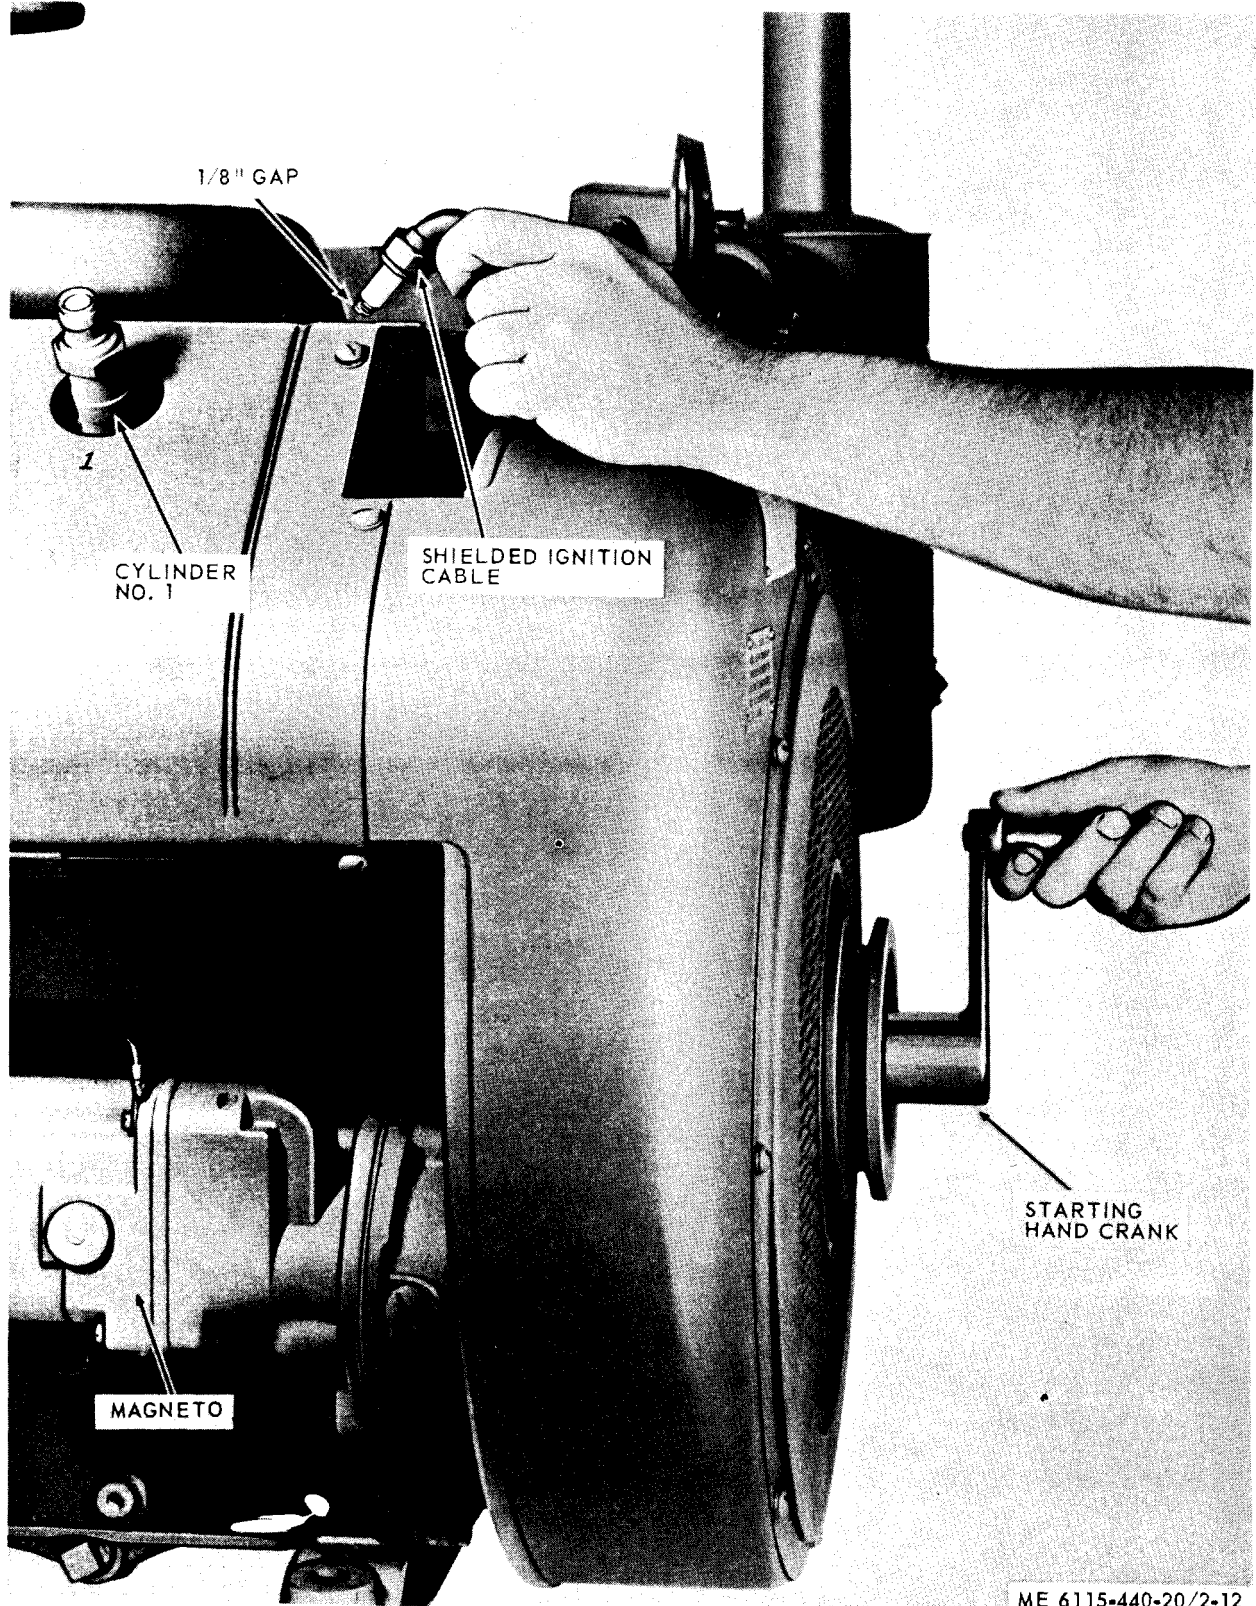

Figure 2-12. Magneto spark check.
- (1) Unscrew shielded ignition cable from the cylinder No. 1 spark plug.
- (2) Insert the starting hand crank over the crankshaft (fig. 2-12).
- (3) Holding the terminal end of the shielded ignition cable 1/8 inch from the air shroud (or other electrical ground), turn the engine over slowly for at least two revolutions with the starting hand crank.
- (4) Observe the terminal end of the shielded ignition cable for spark discharges which should occur during each cycle.
- (5) Reconnect the shielded ignition cable to the spark plug and repeat the check with shielded ignition cables from cylinders No. 2, 3, and 4, in turn.